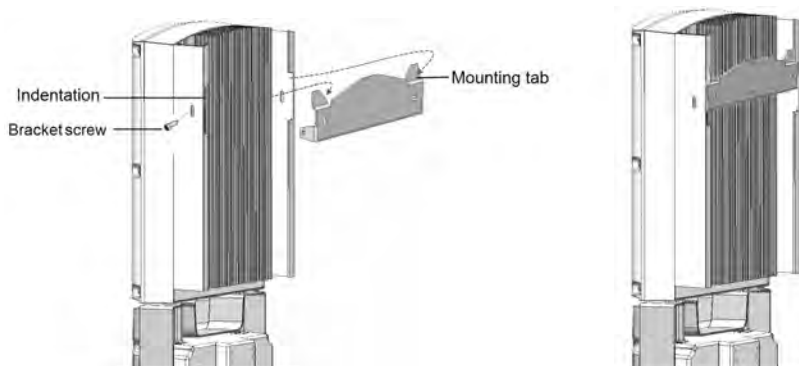

Figure 13: Hanging the inverter on the bracket
- Ensure that the flat edge of the bracket is at the bottom, as in *Figure 13*.
- Hang the inverter on the bracket (see *Figure 13*): Lift the inverter from the sides, or hold it at the top and bottom of the inverter to lift the unit into place. Do not lift holding the StorEdge Connection Unit as it may be damaged.
8. Insert the two supplied screws through the outer heat sink fin on both sides of the inverter and into the bracket (see *Figure 13*). Tighten the screws with a torque of 4.0 N*m / 2.9 lb.*ft.